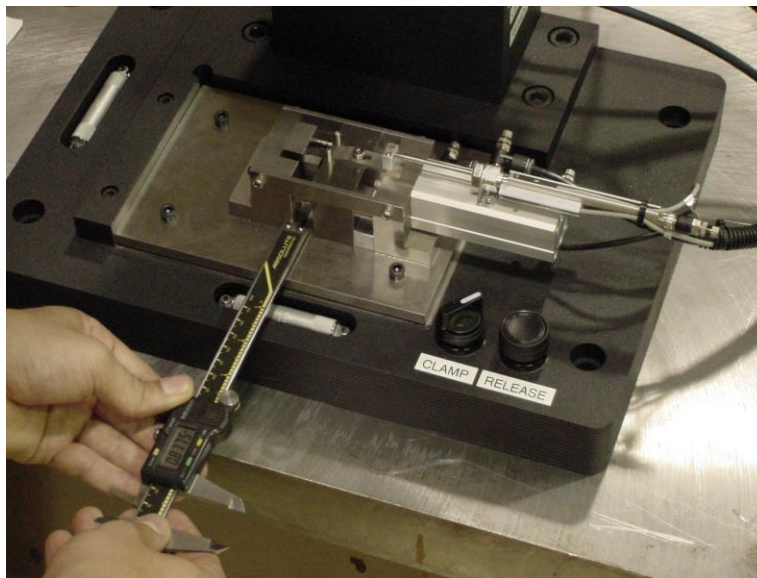

Figure 6 These digital calipers are being used to measure the depth from the front face of the Izod fixture to the calibration block.
- d. From the front of the test machine, measure the depth to the centering block (Figure 6).